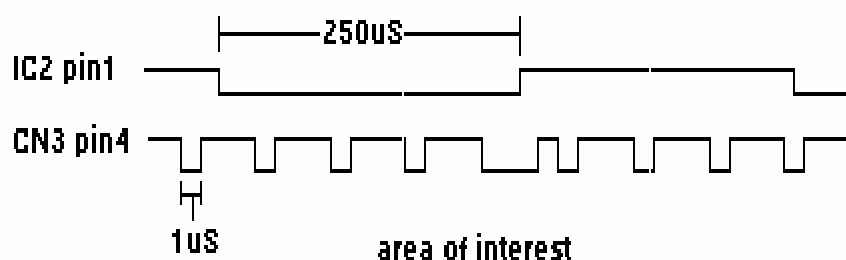

fig.2.
This signal is generated by the D-flip-flop IC13 pin 5. If not like the signal shown at fig.2, then check on the master 2290 if IC13 pin 3 receives the OPTRWSEL-signal (250 kHz/50% duty) from IC8 pin 14, if the CASTIME signal is present at IC24 pin 10, if IC28 pin 13 receives a carry-pulse from IC4 pin 15 (CA), and finally if these pulses are capable of presetting IC13 pin 5 to a high level at a low pulse on IC13 pin 4.